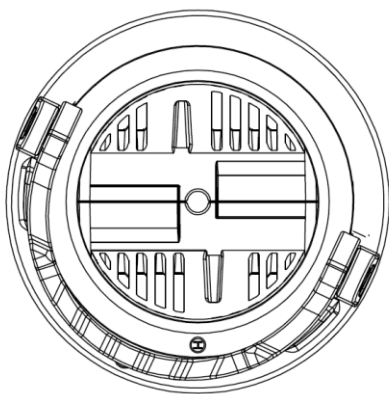
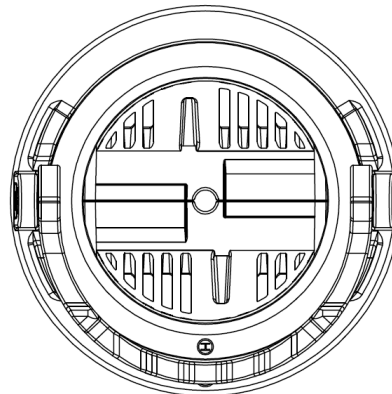

Fig. 9A: Basket ring in "locked" position
Fig. 9B: Basket ring rotated 25° CCW
- 2.5.1.7.1 Rotate basket ring counter-clockwise (as viewed from top of basket) approximately 25° to allow slots in basket ring to align with runner ribs on basket. (Note: Alignment slots of basket ring not visible from top of ring.) (See fig. 9A and fig. 9B.) **[NOTE: Basket ring will first encounter "soft" stops used to lock basket ring in place, basket ring will then encounter "hard" stops. Do not force basket ring to rotate past "hard" stops.]**